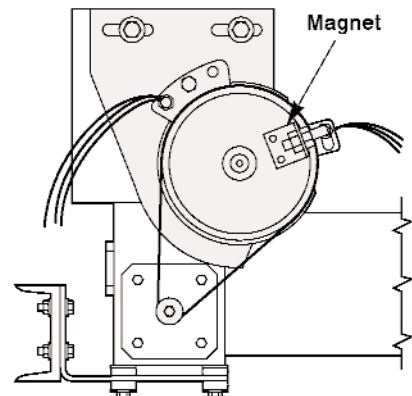

FIGURE 7 — PRE-ADJUSTING OPEN LIMIT SWITCH
3. Remove guard from rotary limit switch, Figure 7.